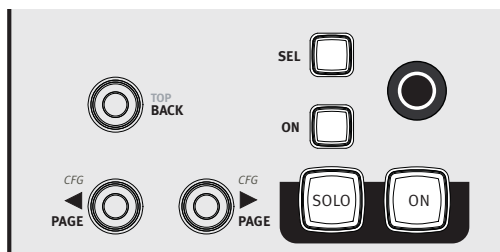

Figure 3-5 **BACK** and **PAGE** keys
8. Press the **PAGE** keys to access more parameters (Figure 3-5).
9. Press the **BACK** key to exit that plug-in (Figure 3-5).